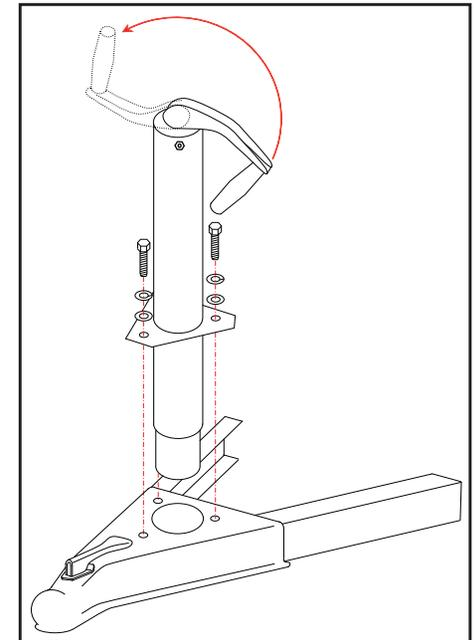

Fig. 3 Installing the jack.
7. As shown in Figure 3, insert the Husky tongue jack into the hole provided on the top of the A-frame coupler, making sure you align the holes in the mounting plate with the holes in the coupler.
8. Secure the jack with three (3) SAE grade 5 bolts by installing the flat washers, then the lock washers, and then the bolts using a 9/16" wrench. The bolts should be tightened to 15-20 foot-pounds torque.
3. As shown in Figure 3, flip the crank handle into the working position.